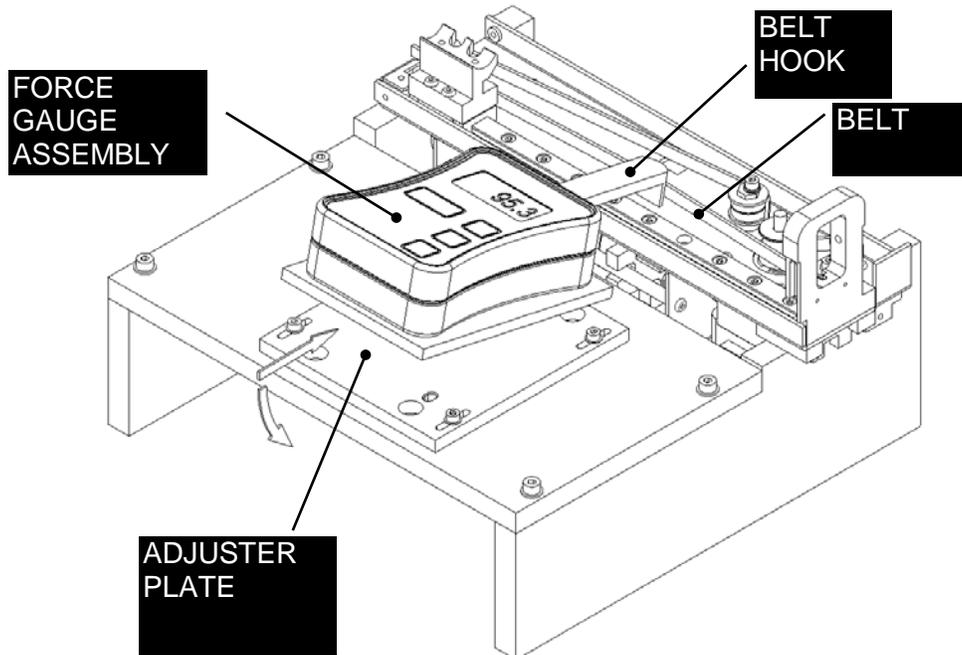

Figure 7-33: Location of Force Gauge Assembly
3. Slide the Spigot Block to the top position, fully left and reposition the Force Gauge on the fixture. Angle the gauge assembly and push it forwards and down so the belt hook slightly deflects the belt and the dowels on the gauge assembly fit into the adjuster plate of the fixture. (Figure 7-33).